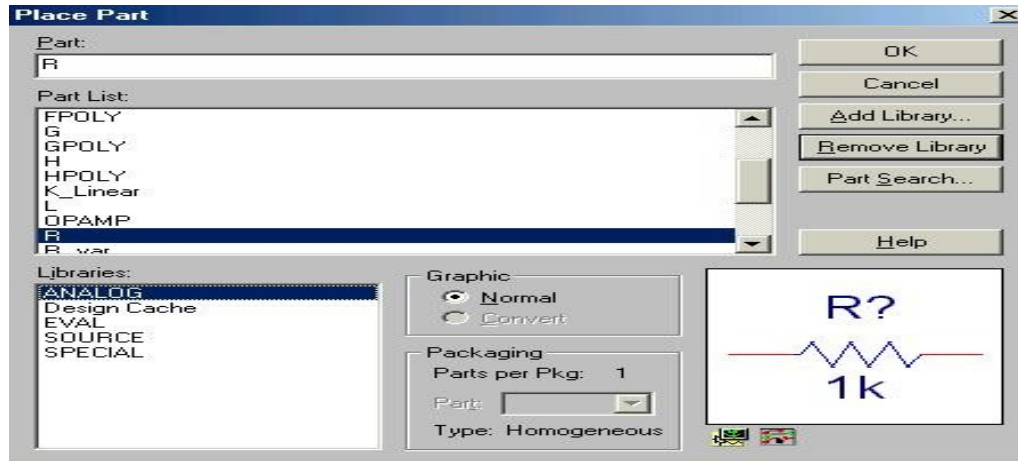

Figure 3: Place Part window
5. After placing all part, you need to place the Ground terminal by clicking on the GND icon (on the right side toolbar – see Fig. 3). When the Place Ground window opens, select GND/CAPSYM and give it the name 0 (i.e. zero). Do not forget to change the name to 0, otherwise Pspice will give an error or "Floating Node". The reason is that SPICE needs a ground terminal as the reference node that has the node number or name 0 (zero).